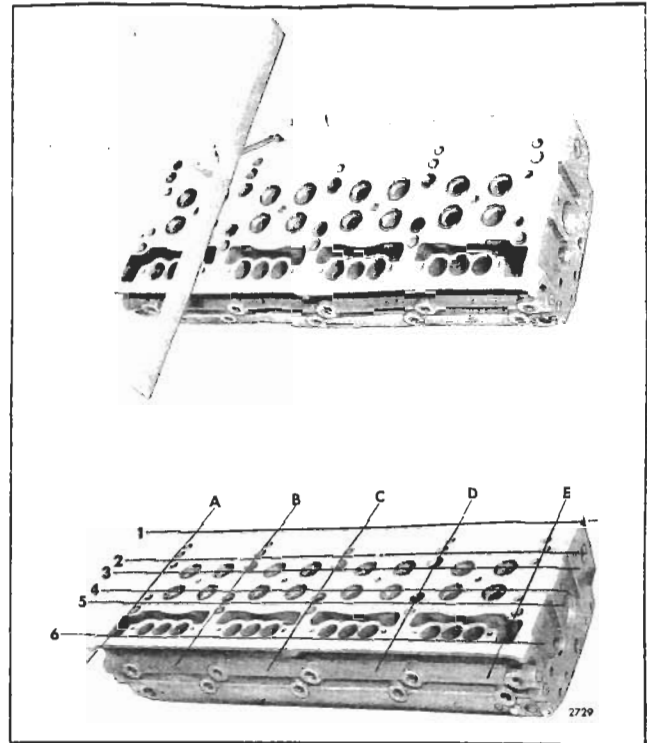

Fig. 7 - Checking Bottom Face of Cylinder Head
- Use a heavy, accurate straight-edge and feeler gages, tool J 3172, to check for transverse warpage at each end and between all cylinders. Also check for longitudinal warpage in six places as shown in Fig. 7. Refer to Table 1 for maximum allowable warpage.